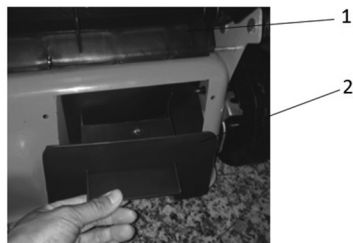

Fig. 9
1. Remove the grass catcher and hold the plastic grass catcher cover with your hand (Fig. 9 – point 1).
2. Install the mulching plug into the discharge chute (Fig. 9 – point 2) and make sure that the plug is seated firmly.